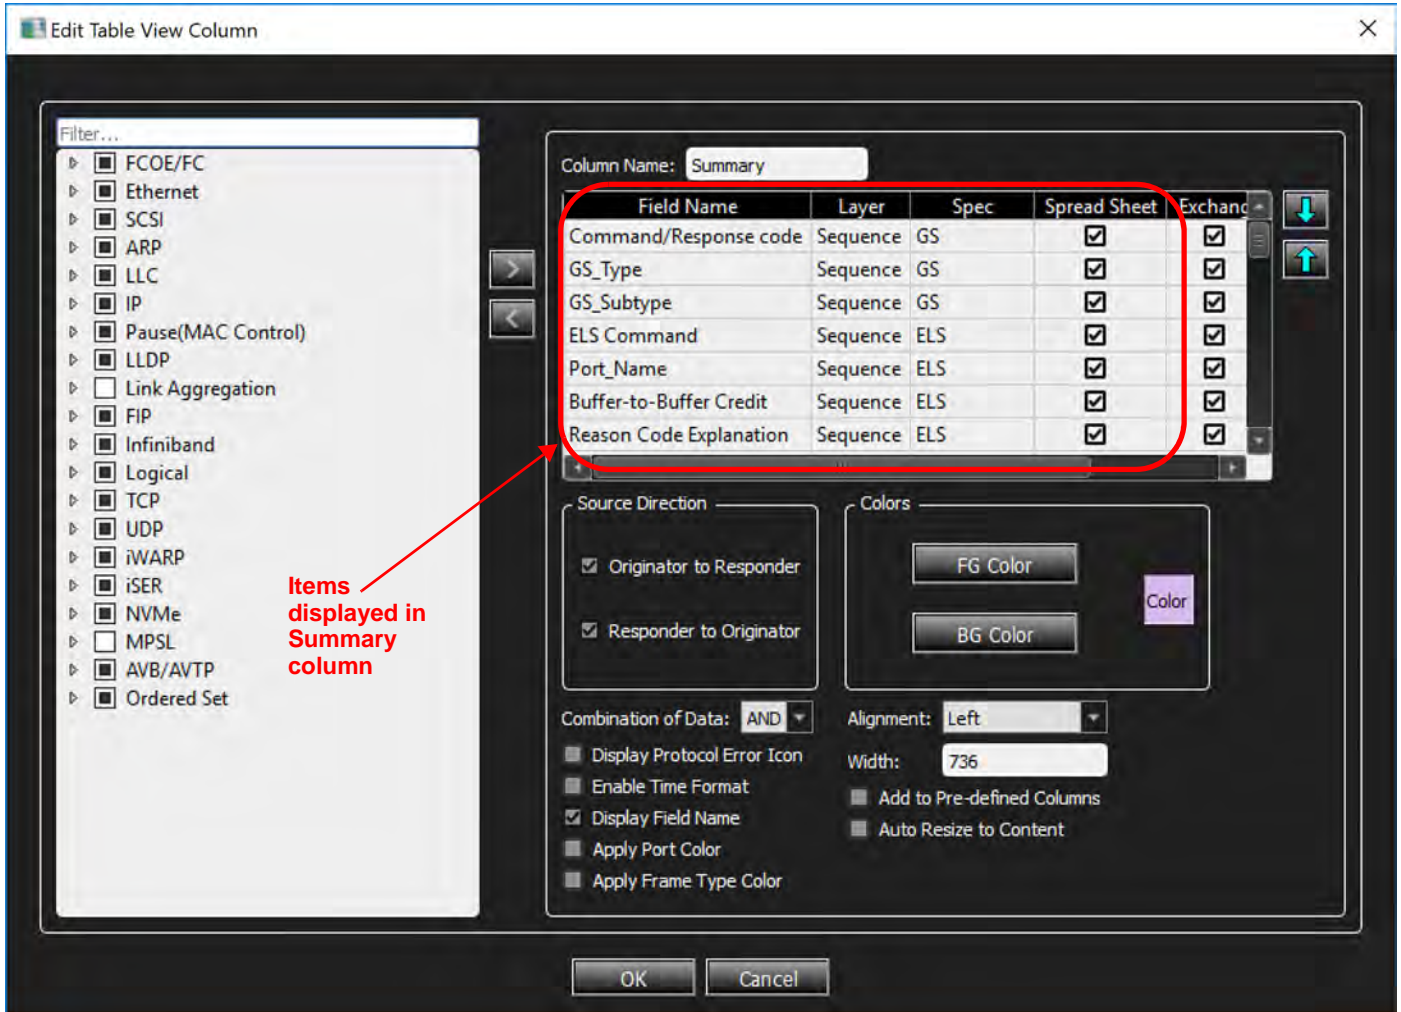

Figure 5.56: Edit Column
2. Select **Edit Column**. The *Edit Table View Column* window appears in which you can manipulate the data in the Summary column (Figure 5.56).